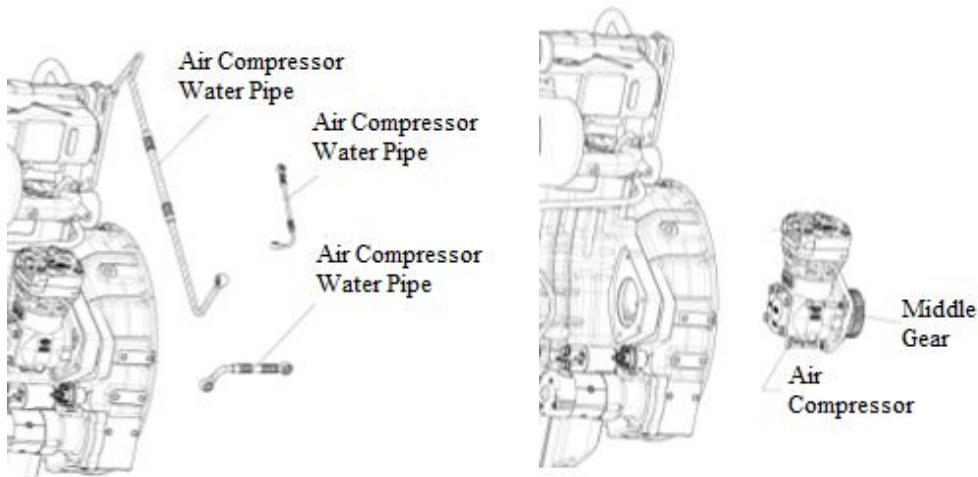

Figure 4-67 Air compressor and steps of removing
- (1) Remove air intake pipe, water inlet line, water drain pipe, oil intake line;
- (2) Remove the 3 bolts on the flange, remove the compressor, and remove the O-shaped gasket and operate as shown in Figure 4-67.